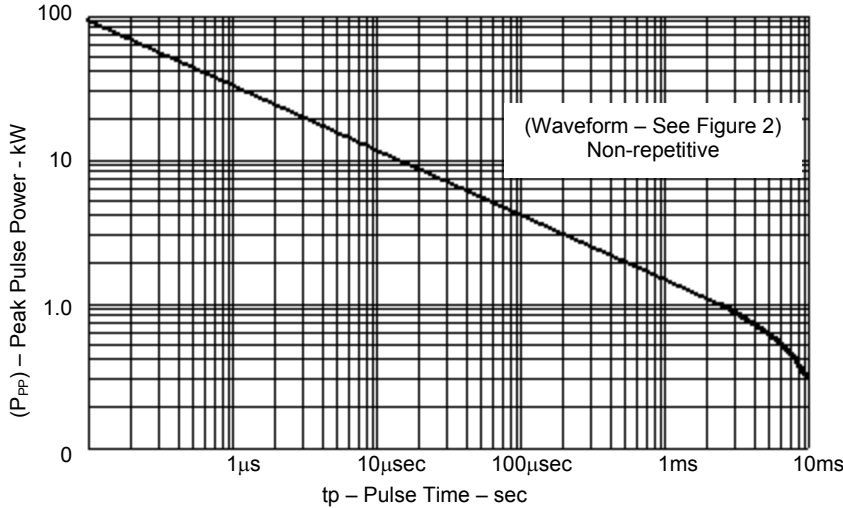

FIGURE 1 - Peak Pulse Power vs. Pulse Time
- Peak Pulse Power dissipation at 25°C: 1500 watts at 10/1000 μ s (also see Fig 1,2, and 3)